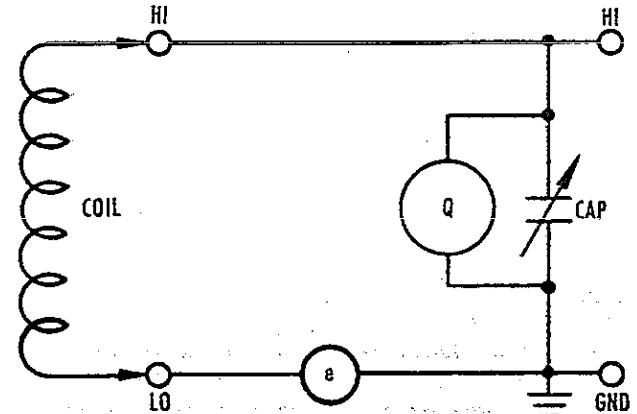

Figure III-1 Direct connection to measuring circuit
Most coils can be measured by connecting them directly to the COIL terminals, as shown in Figure III-1. The measuring circuit is resonated by adjusting either the capacitance or frequency. The indicated Q is read on the CIRCUIT Q meter.
a. Connect the coil to be measured to the COIL terminals (after completing "Initial Adjustments"). Figure III-1 illustrates this connection.
e. Read the indicated Q on the top (Q) scale of the CIRCUIT Q meter.